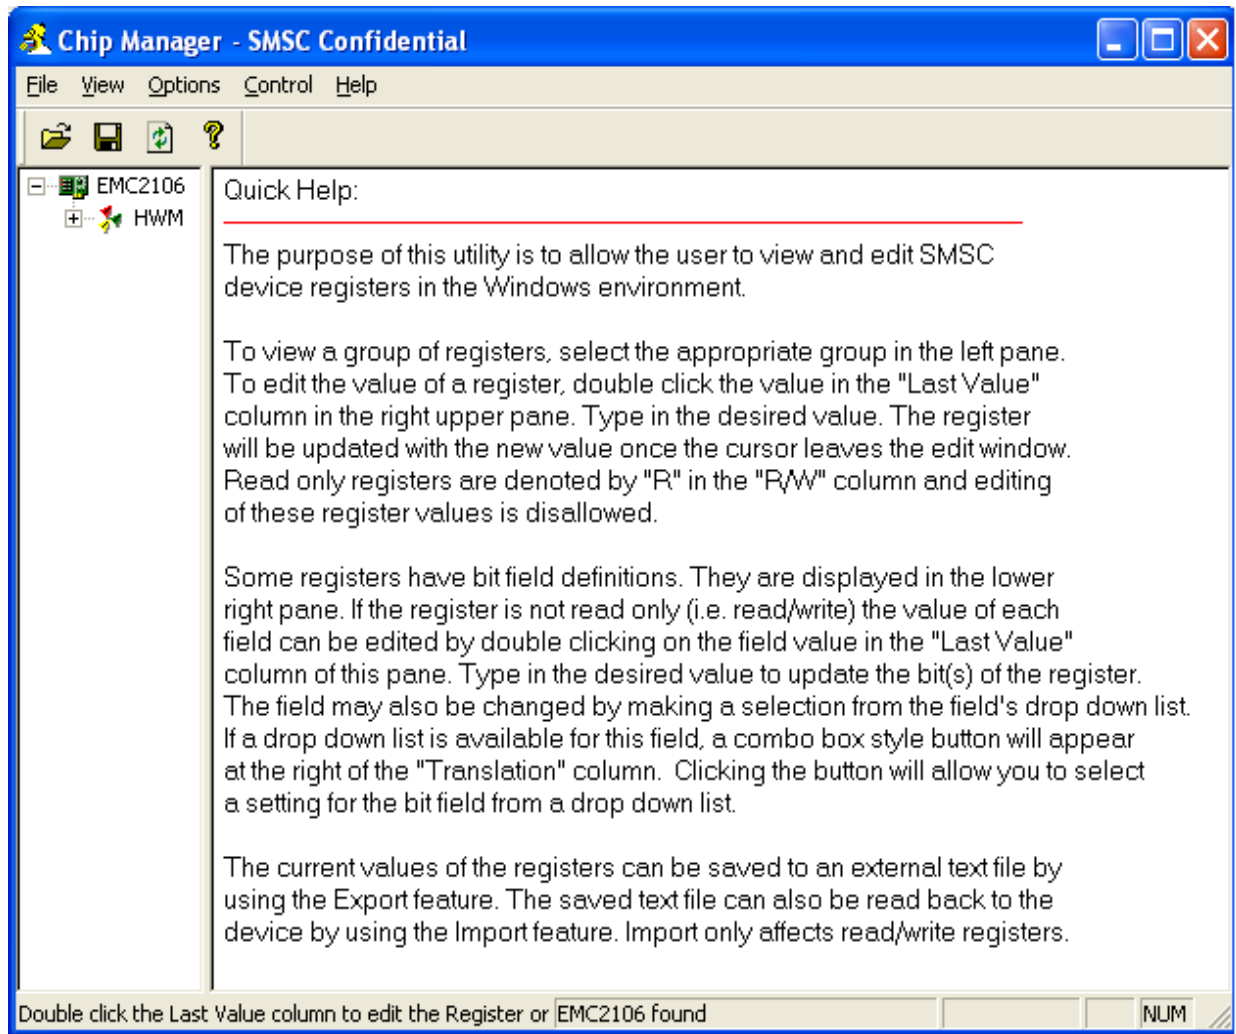
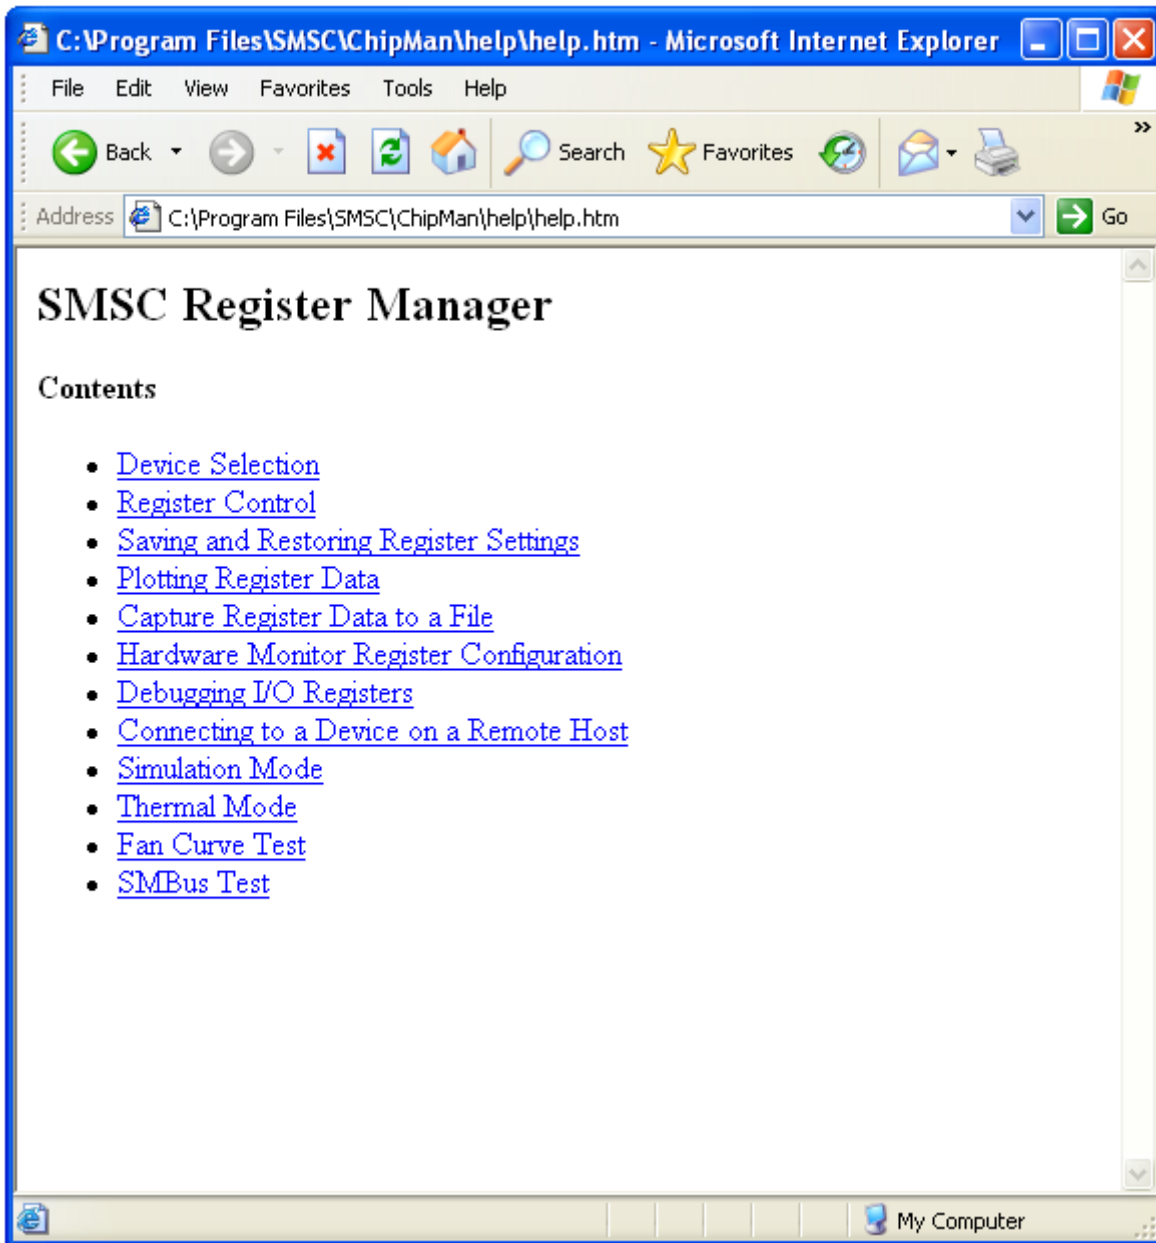

Figure 2.1 Chip Manager Quick Help Startup Screen
Figure 2.2 Chip Manager Help Screen
3. Start the EVB Software by selecting the Chip Manager application from the SMSC folder from the Programs Windows Start menu. The EVB will initialize and the Chip Manager Quick Help screen will appear as in Figure 2.1. The USBAct LED should be blinking when the Chip Manager is running. For more help with ChipMan, select Help -> Contents for an html based help document as shown in Figure 2.2.